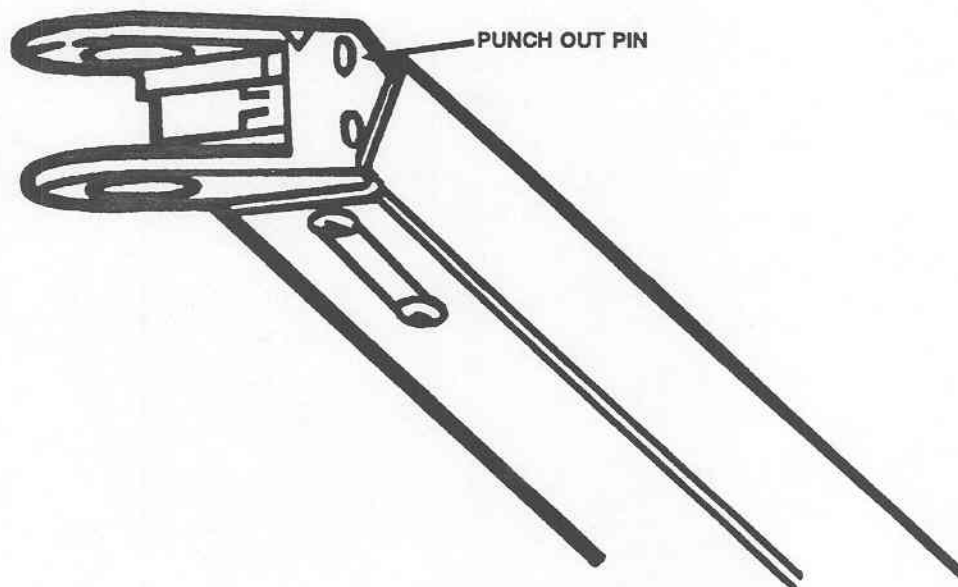

Figure 3-18. Punch out pin.
- (12) Remove the steel pin using a pin punch and remove the knuckle (fig 3-18).